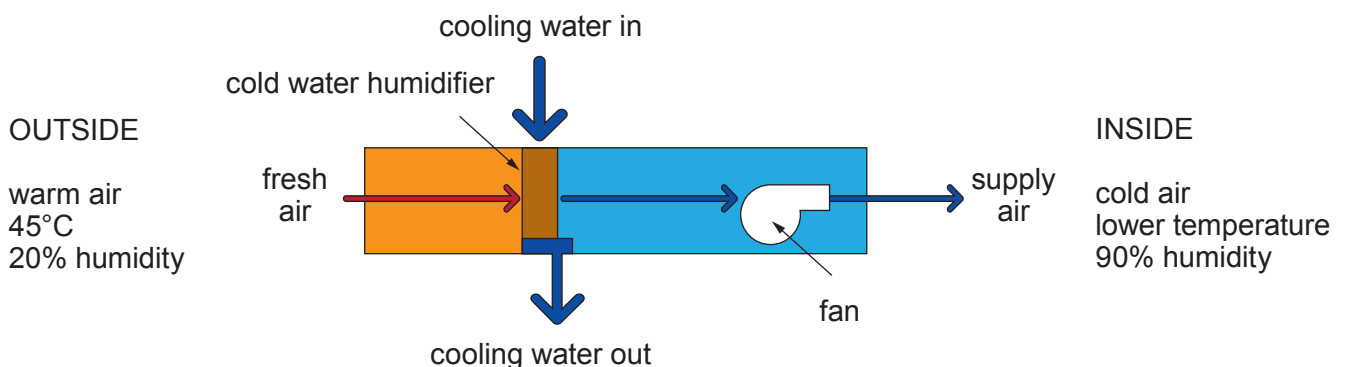

Figure 5: A simplified adiabatic air-conditioning system
- 25 One alternative to traditional air-conditioning is an adiabatic cooling system, where there is no transfer of heat energy between the warm input air (from outside) and the surroundings, as the air cools. Cooling is achieved by evaporating water, and the energy needed to do this is taken from the warm input air. A diagram illustrating a simple adiabatic cooling system is shown in **Figure 5**.
air (called the humidity), at different temperatures. In **Figure 5**, warm air at a lower relative